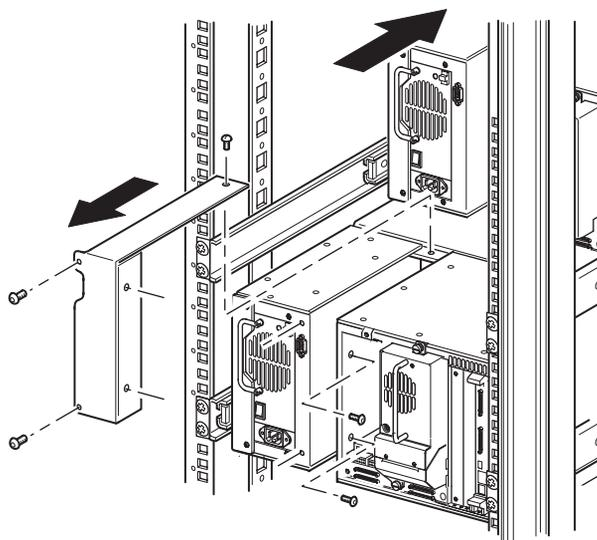

Figure 8: Removing the PTM cover plate
Note: Each library needs to be pulled out sequentially from the front of the rack enclosure to gain access to the top PTM cover plate screw on a lower library. See Figure 8 for screw locations.
- c. Using a #2 Phillips screwdriver, remove the screws that secure the PTM cover plate to the rear of each library chassis (see Figure 8).